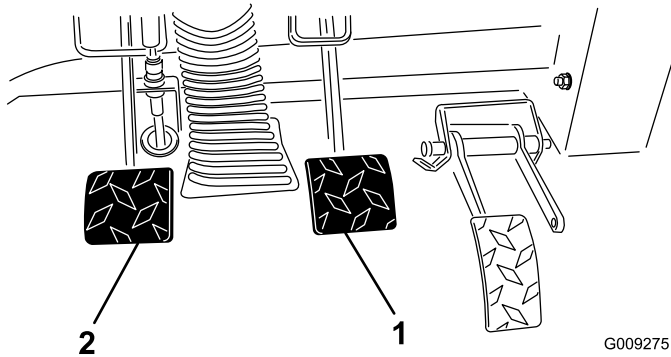

Figure 55
2. Lift up on the brake pedal (Figure 55) until it contacts the frame.
3. Loosen the jam nuts securing the yoke to the master cylinder shaft (Figure 55).